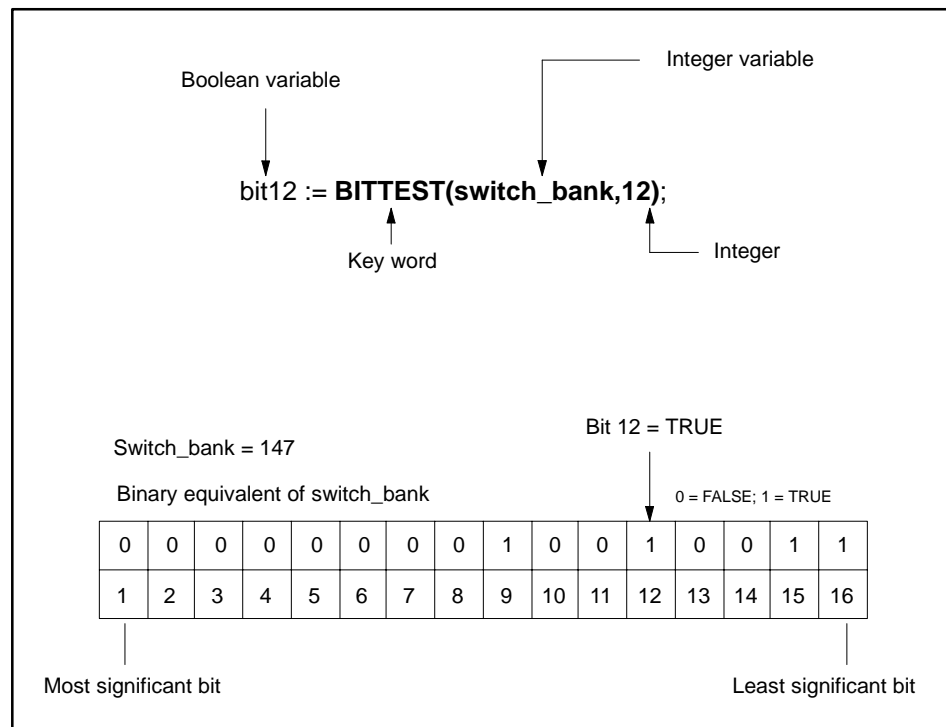

Figure 11-12 BITTEST Function
- If the tested bit is 1, the returned value is true. For example, in Figure 11-12, the value of the variable, **bit12**, is true. If the tested bit is 0, the returned value is false.